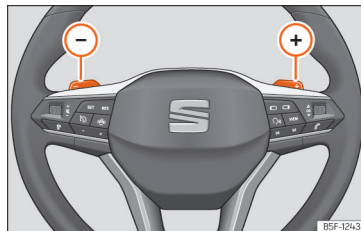

Fig. 163 Steering wheel: automatic transmission levers
- Press the gearshift paddle  to select a higher gear **»» Fig. 163**.